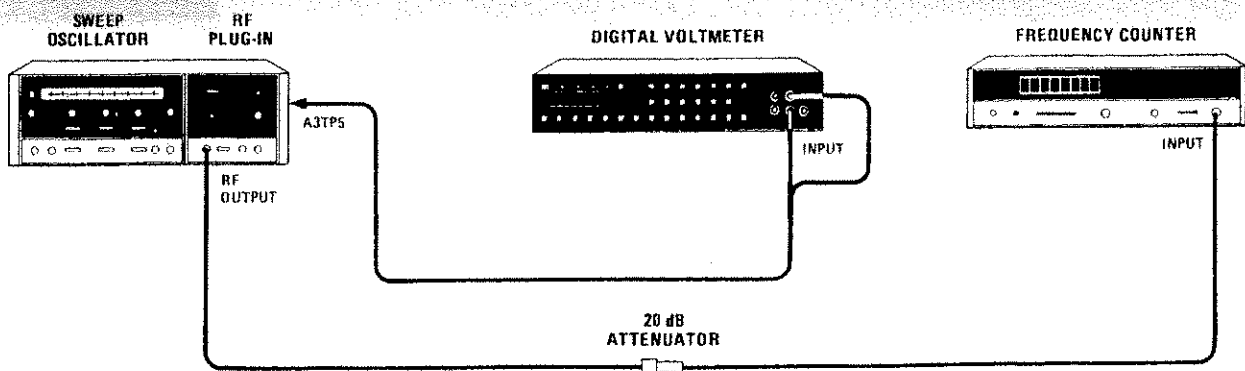

Figure 5-1. YIG Oscillator Bias Adjustment Test Setup
1. Connect equipment as shown in Figure 5-1.